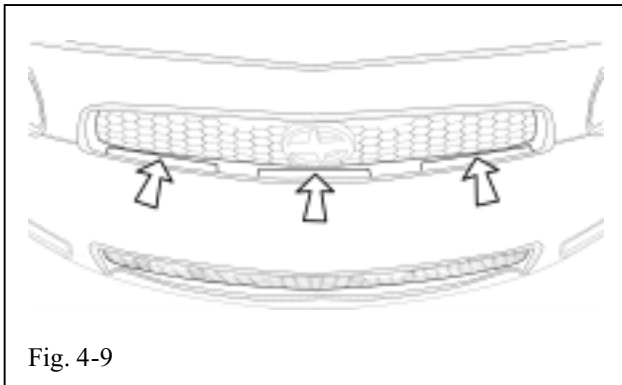

Fig. 4-9
- (i) Insert three (3) nylon flaps underneath the grill (Fig. 4-9.)